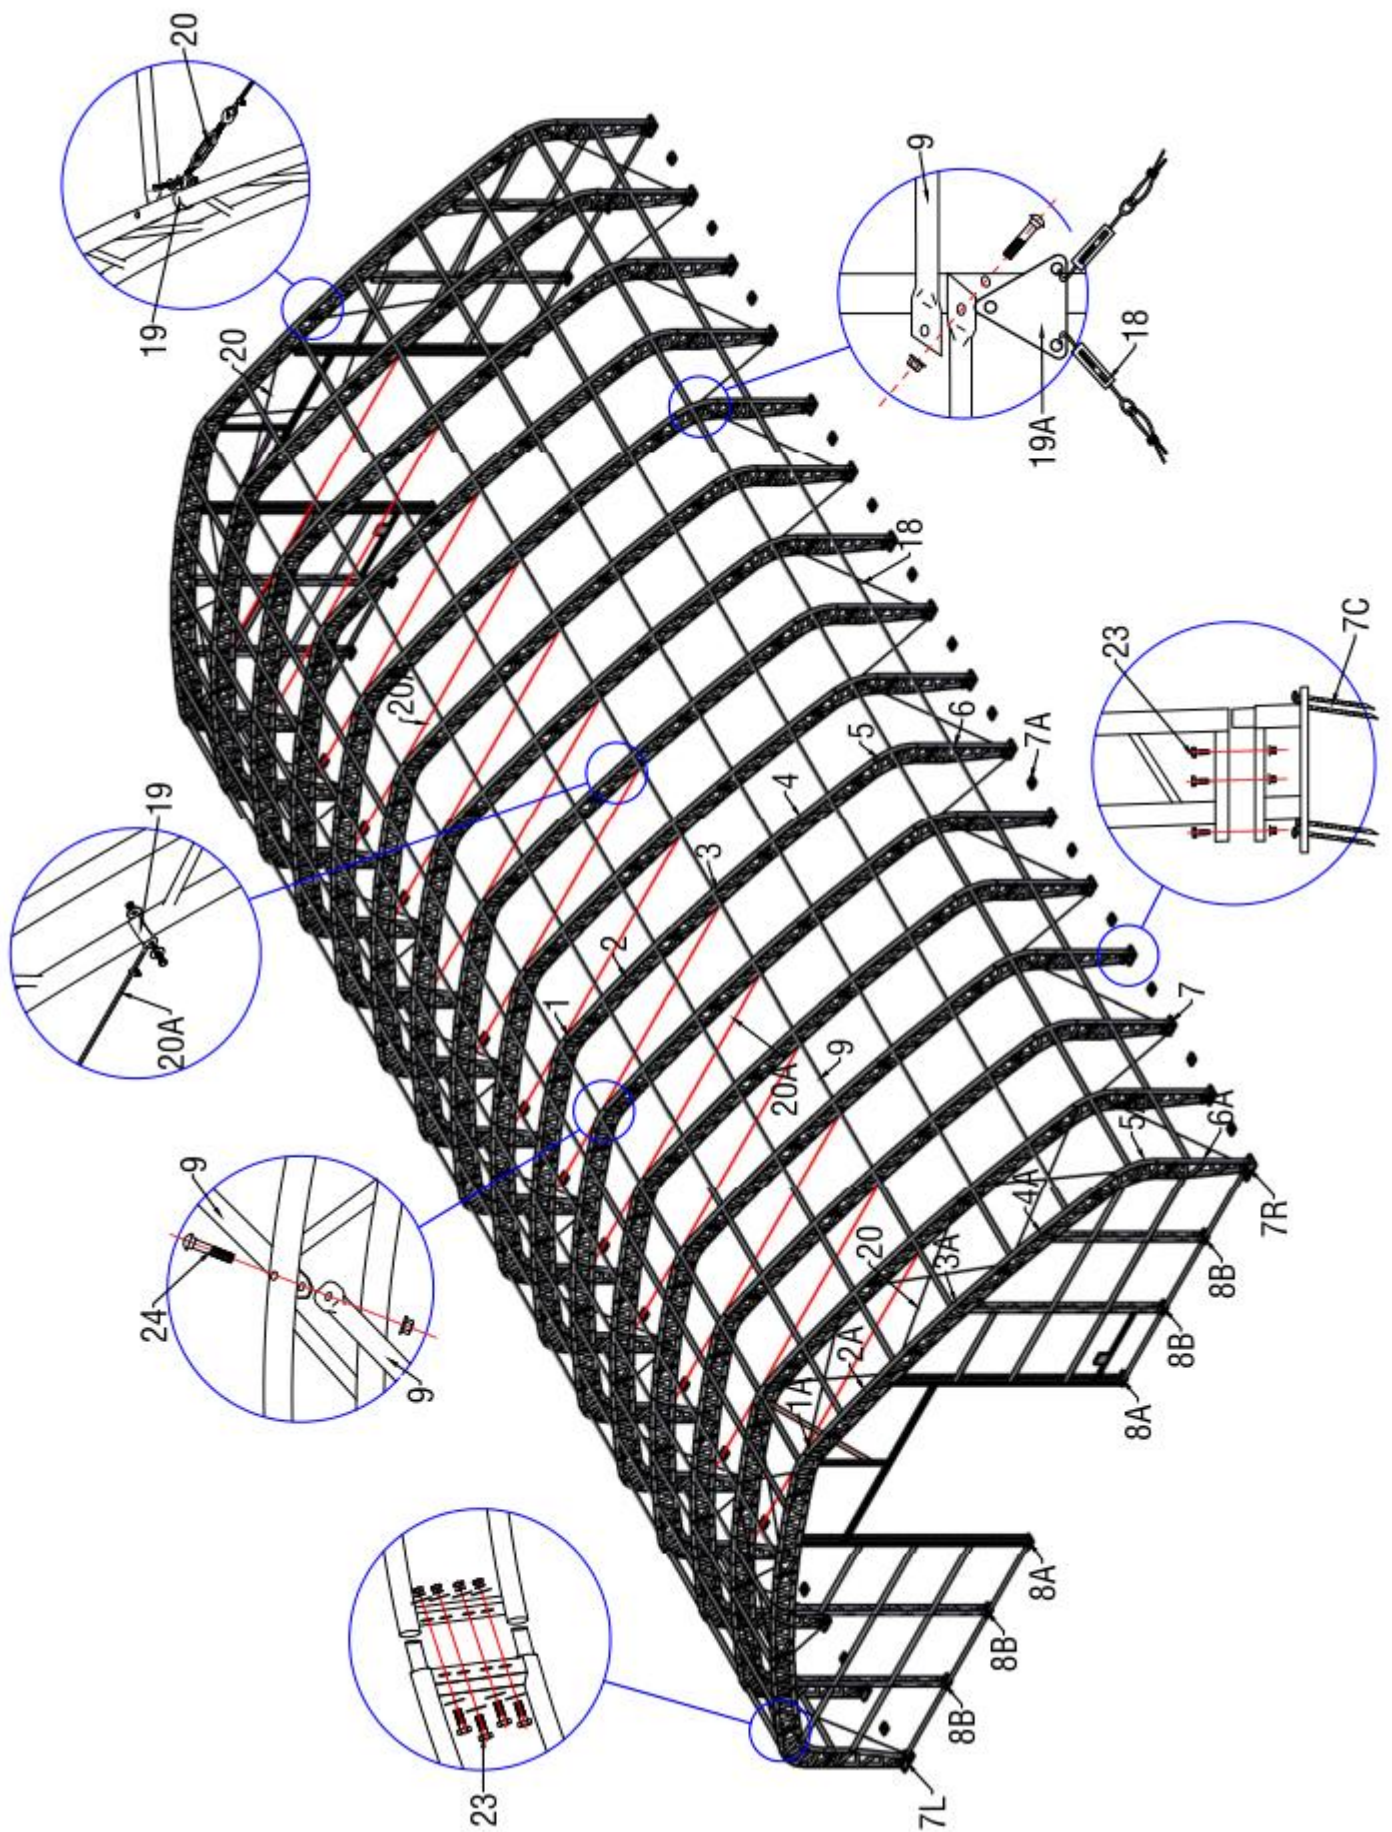
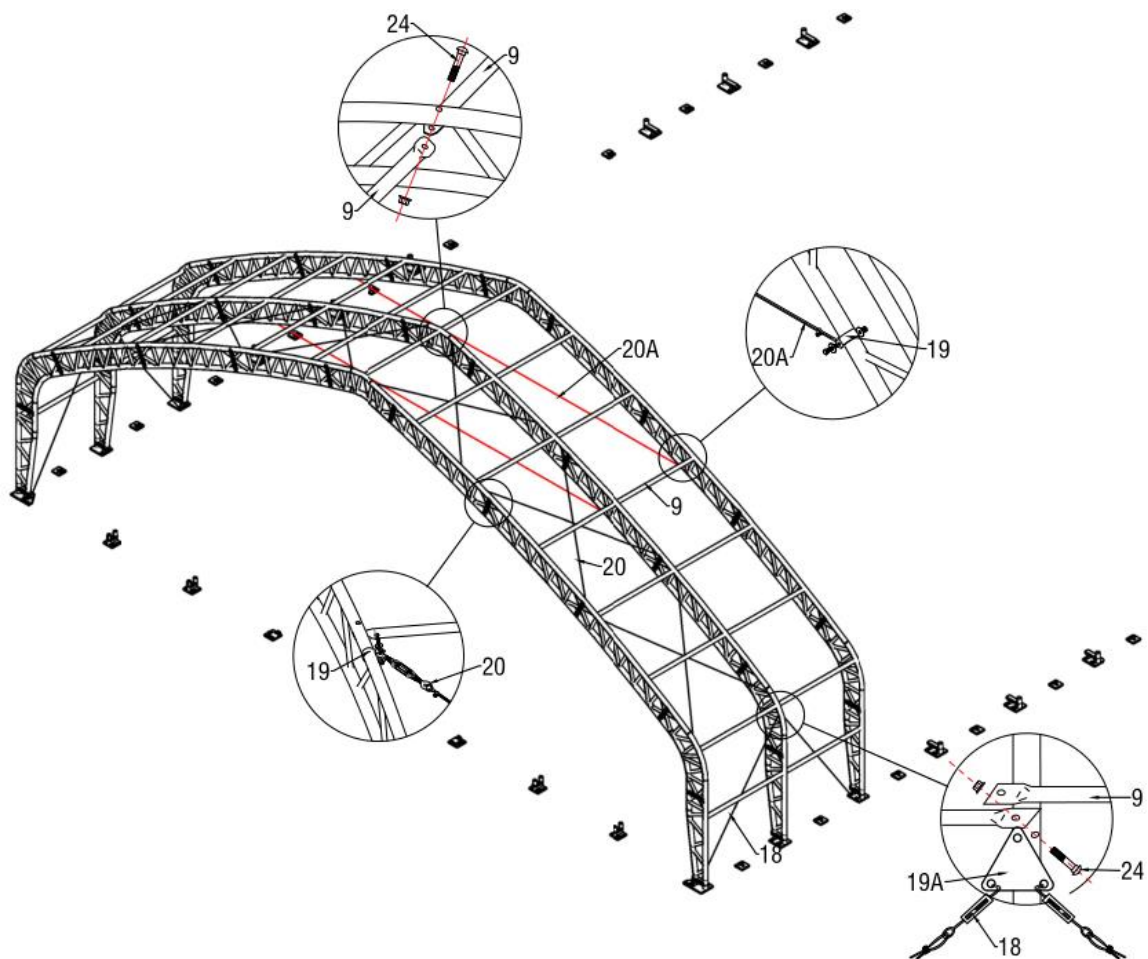

Figure 1: Sketch of Trussed Frame
Figure 6
3. Connect purlin (No.9) to arch by using carriage screw 12x110mm (No.24) by turns (see Figure 6), then connect the steel wire (No.18, 20 and 20A) on side and top by using clips (No.19) and triangle iron plate (No.19A). Assemble every group of arch by turns. After installing other groups of arch frame and purlin, the assembly of the main frame is finished. (see Figure 1).